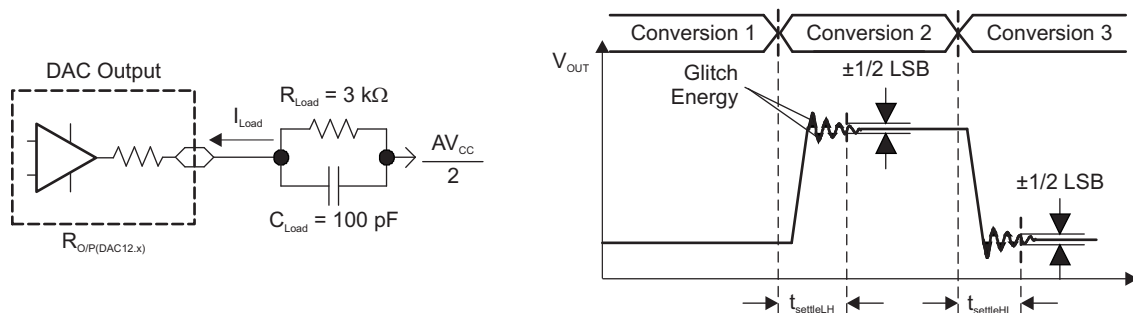
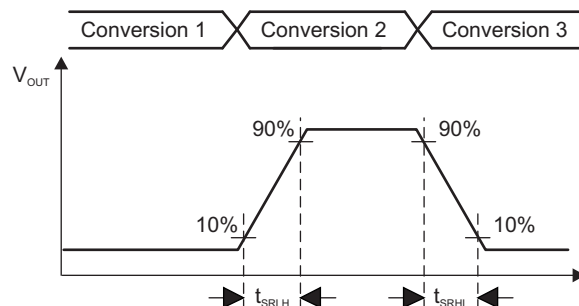

图 5-19. Settling Time and Glitch Energy Testing
图 5-20. Slew Rate Testing
VREF = VCC, DAC12IR = 1 (see 图 5-19 and 图 5-20), over recommended ranges of supply voltage and operating free-air temperature (unless otherwise noted)
(1) RLoad and CLoad connected to AVSS (not AVCC/2) in 图 5-19.
(2) Slew rate applies to output voltage steps ≥ 200 mV.